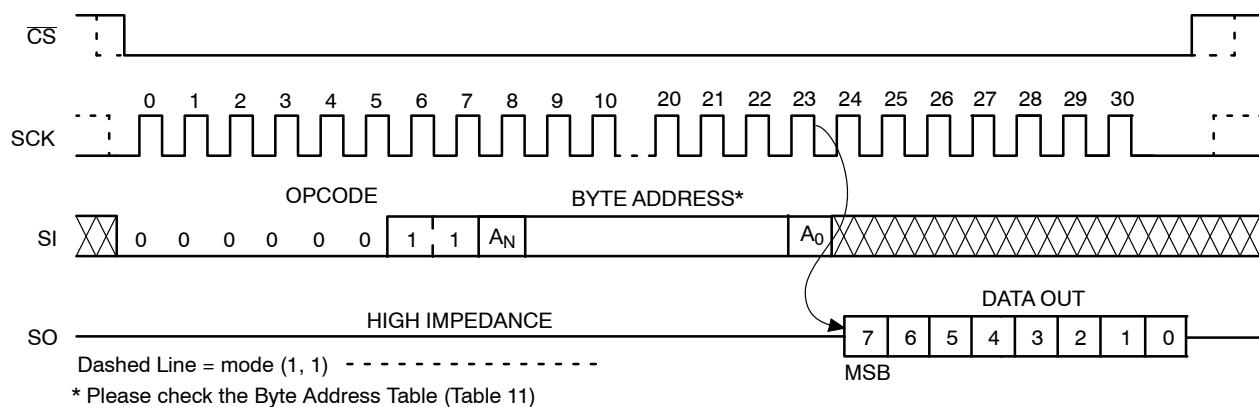

Figure 9. READ Timing
After receiving the last address bit, the CAV25256 will respond by shifting out data on the SO pin (as shown in Figure 9). Sequentially stored data can be read out by simply continuing to run the clock. The internal address pointer is automatically incremented to the next higher address as data is shifted out. After reaching the highest memory address, the address counter “rolls over” to the lowest memory address, and the read cycle can be continued indefinitely. The read operation is terminated by taking CS high.
Reading the additional 64-byte Identification Page (IP) is achieved using the same Read command sequence as used for Read from main memory array (Figure 9). **The IPL bit from the Status Register must be set (IPL = 1) before attempting to read from the IP.** The [A5:A0] are the address significant bits that point to the data byte shifted out on the